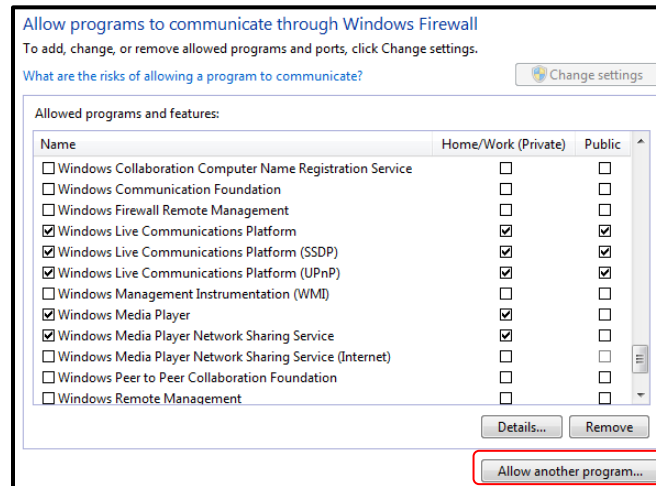

Figure 87 - Adding another program to allowed list
4. Click the “Allow another program...” button. Refer to Figure 87.